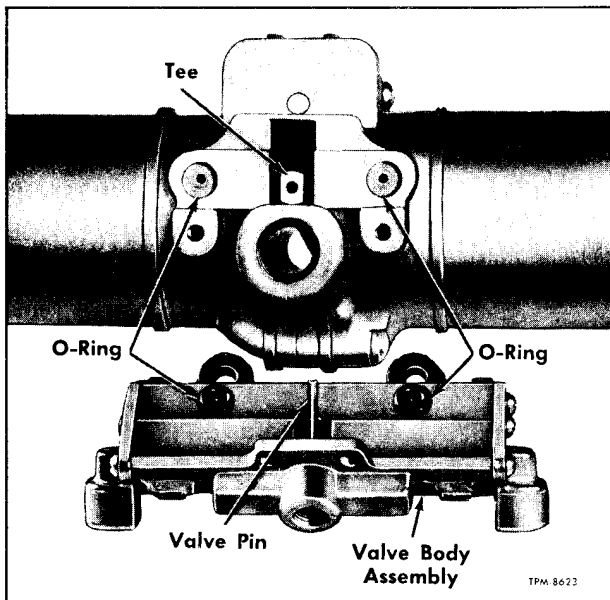

Figure 19—Windshield Wiper Motor Valve Removed
1. Remove retainer (37) which attaches link (36) to motor shaft assembly (35).
2. Remove screw (41) and washer (40) which attach motor transmission shaft (35) into wiper motor. Pull shaft assembly from motor assembly.
3. Remove four bolts (38) which attach mounting bracket assembly (33) to motor. Remove bracket.
4. Remove four screws (30) which attach wiper control valve body (31) to motor piston body assemblies. Remove valve body and body O-rings (23). Figure 19 shows body separated.
5. Place right half of piston body (1) (half with threaded screw holes) in vise so that attaching screws are up. **CAUTION:** Tighten vise **ONLY** enough to hold body.
6. Remove screws (15) which attach piston bodies together.
7. Slowly lift off upper piston body (14).
8. Note position of alignment marks ("X") on gear (10) and gear rack (7). Remove gear assembly, noting locations of thick and thin bearings and the chamfer on the rear bearing.
9. Note position of roller pin (13), and remove rack roller (12).
10. Note position of valve reverser tee (21) in body slot, and remove the piston assembly (39).
2. With right piston body assembly (1) placed in vise, install piston assembly (39) into piston body.
3. Install roller (12) and roller pin (13). Make sure pin notch is properly positioned to align with body attaching screw later.
4. Assemble bearings (8) and (11) with shim washer (9) on gear and sleeve assembly (10). **NOTE:** Make sure chamfer on rear bearing is toward the rear. Install gear and bearings into body. Make sure alignment marks ("X") on gear and rack are aligned.
5. Install left piston body assembly (14) over piston assembly. Attach bodies together with screws (15). Tighten screws firmly.
6. Referring to figure 19, place O-rings (23) on bosses of valve body (31) as shown. Carefully place valve body to motor piston bodies, then install valve body attaching screws (30). Tighten screws firmly.
7. Attach mounting bracket (33) to motor with four bolts (38) and lock washers.
8. Install motor transmission shaft assembly (35) into motor making sure shaft link is positioned to align with upper wiper arm shaft lever.
9. Install link (36) to shaft and secure with retainer (37).